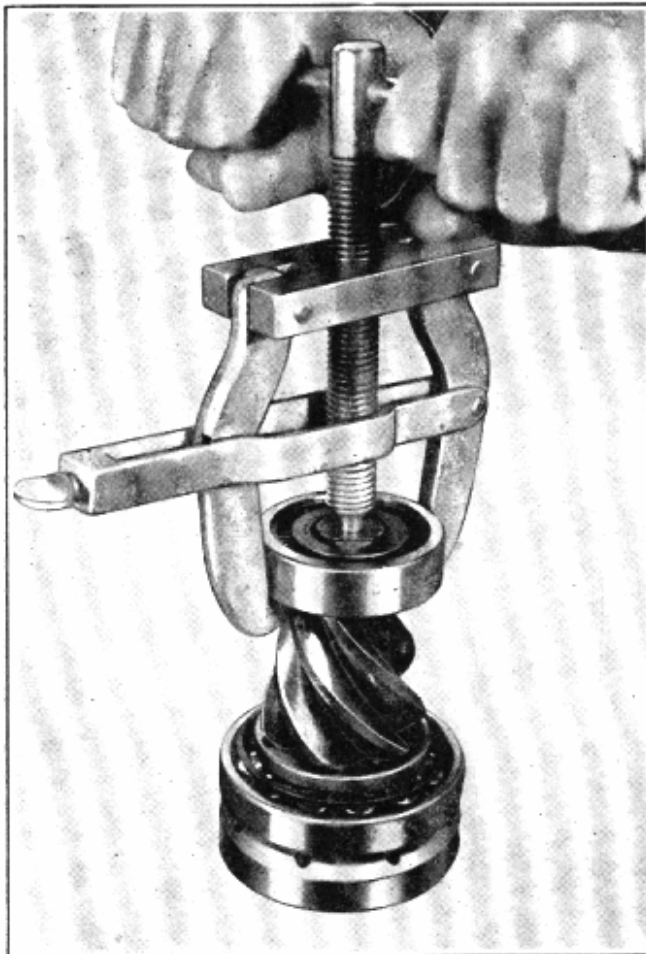

Fig. 33—Removing the Single Row "Outboard" Bearing Using Puller No. TR278R
1. The single row "outboard" bearing (to the rear of the pinion) may be removed from the end of pinion shaft, after the horseshoe lock washer has been taken off, by using a bearing puller such as tool No. TR-278R as shown in Fig. 33.